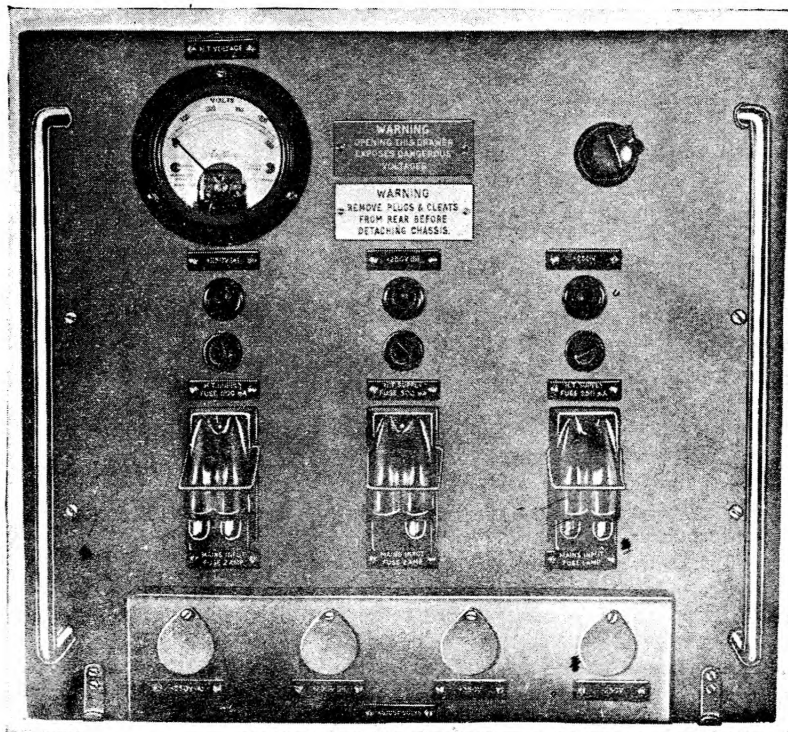

Fig. 1. Power unit 4415 : front panel
1. This unit (*fig. 1, 2 and 3*) produces three stabilized HT supplies for amplifying unit (video) 4416 (*Sect. 2, Chap. 11*). One of these supplies is $-250V$, which is available earlier, after switch-on, than the other two supplies, each of which is $+250V$. The output voltages are monitored by a four position switch connected to a panel-mounted meter.